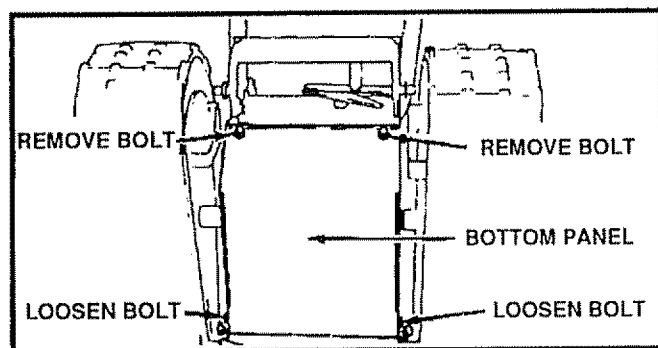
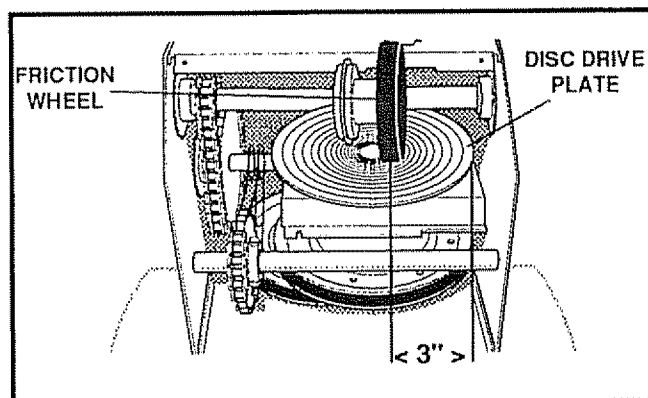

FIG. 31
FIG. 32
- Remove the bottom panel (See Fig. 31).
- Position the shifter lever in first (1) forward gear.
- Note the position of the friction wheel on the disc drive plate. The right outer side of the disc drive plate should be 3" from the center of the friction wheel (See Fig. 32).